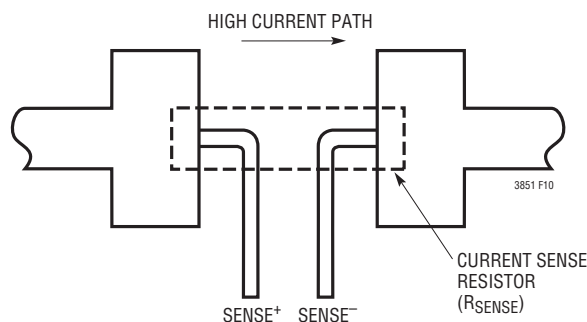

Figure 10. Kelvin Sensing  $R_{SENSE}$
3. Are the SENSE- and SENSE+ leads routed together with minimum PC trace spacing? The filter capacitor between SENSE+ and SENSE- should be as close as possible to the LTC3851. Ensure accurate current sensing with Kelvin connections as shown in Figure 10. Series resistance can be added to the SENSE lines to increase noise rejection and to compensate for the ESL of  $R_{SENSE}$ .